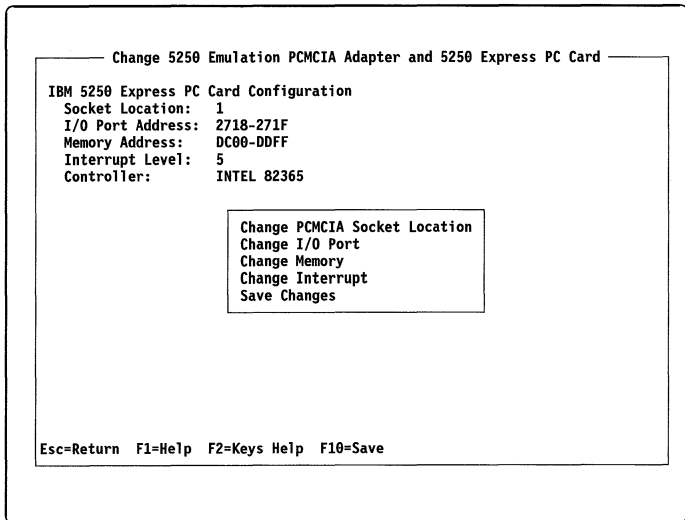

Figure 19. Change 5250 Emulation PCMCIA Adapter Screen
1. From the Change Adapter Configuration screen, select the 'Change 5250 Emulation PCMCIA Adapter' option. The 'Change 5250 Emulation PCMCIA Adapter' screen, similar to the one shown in Figure 19 on page 32, appears.